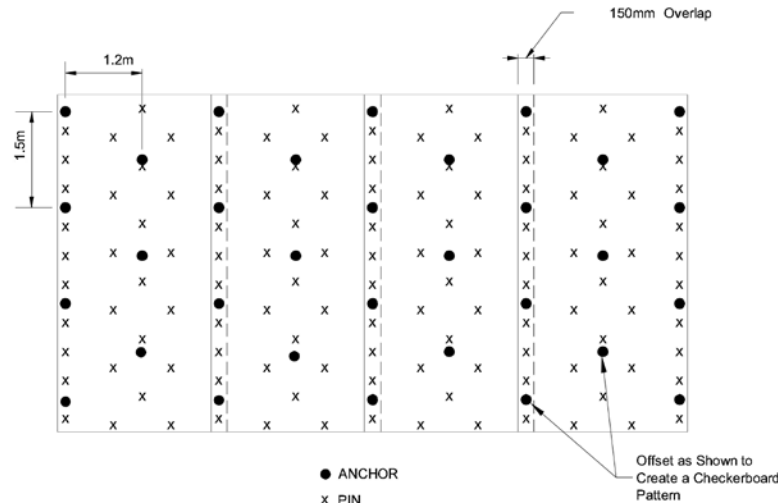

FIGURE 4: ANCHOR / PIN PATTERN DETAIL
- a: Roll edge overlap -150mm minimum overlap with upstream mat on top. Secure with one row of ground pinning devices on 300mm centers and with one row of earth percussion anchors on 1.2m centers (see Figure 4)
- Secure mat using suggested ground pinning devices and earth percussion anchors for appropriate frequency and pattern shown on the Anchor/Pin Pattern Detail (see Figure 4) and Pin/Pattern Detail (see Figure 6)